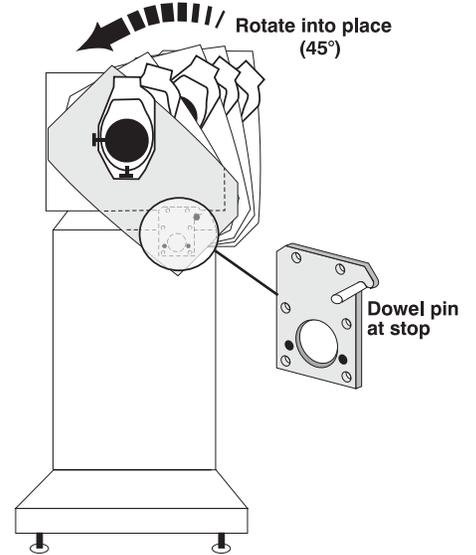

Figure 2.5. Positioning Head
- 6.2 See Figure 2.5. Carefully rotate the head counter-clockwise until its rear dowel pin seats into the matching notch or “stop” on the pedestal mounting plate. The head will now be loosely cantilevered into position, although not secured. **Do not bump. Keep supported.**